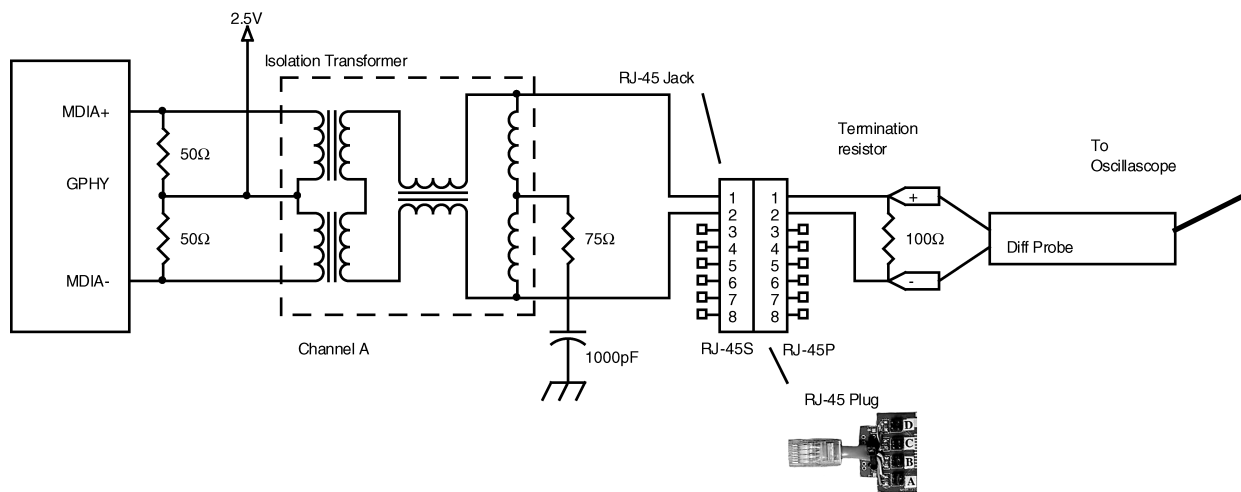

Figure 4. Link Pulse Test On Channel A
1. When auto-negotiation (AN) is enabled (that is, AN_EN is strapped high), after reset, the GPHY transmits link pulses. By default, the auto-MDIX is also enabled. The link pulse will alternate between channels A and B (Figure 4).
3. What if link pulse is not found? (a) The most common cause is that the transformer center tap is connected to the GND instead of 2.5V; (b) The designer may have mislabeled the transformer pins so that GPHY A, B, C, and D channels are not connected to the appropriate transformer windings; (c) Check to ensure the AN_EN pin is strapped high; (d) There should be 50 Ω termination resistors to 2.5V on each member of the MDI pair (Figure 4).
If the waveform is not found, check the MDI connections between the GPHY and the isolation transformer and, between the transformer and RJ-45 jack. Note that the transformer center tap should be connected to 2.5V. In addition, make sure that the 50-Ω termination resistors on each of the MDI pairs are connected correctly (Figure 4).